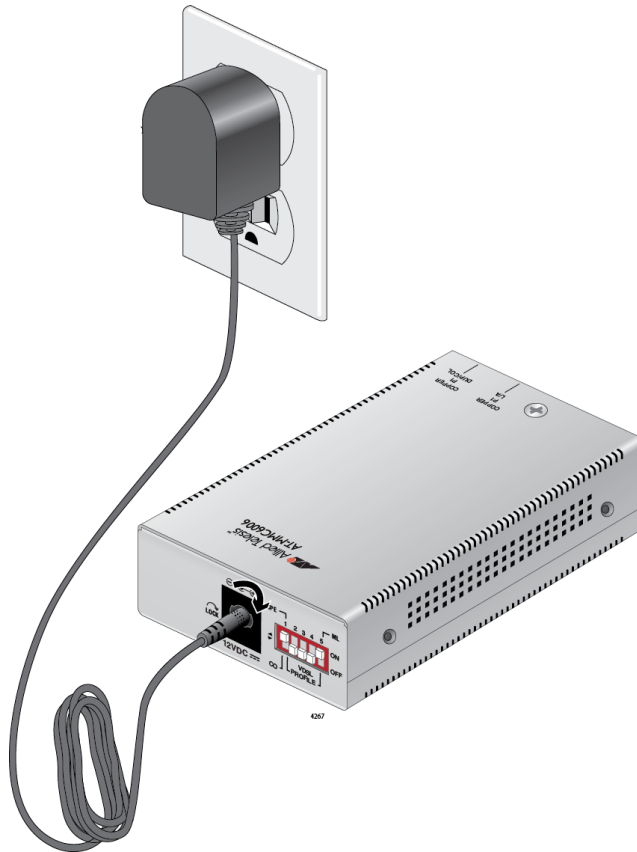

Figure 14. Subscriber Unit - Connecting 12VDC Power Adapter
1. Plug the DC connector of the external power adapter to the power receptacle connector labeled 12VDC on the back panel of the unit and turn the cord clockwise one-quarter turn to lock, as shown in Figure 14 on page 42.
1. Plug the DC of the external power adapter to the power receptacle connector labeled 12VDC on the back panel of the unit and turn the cord clockwise one-quarter turn to lock, as shown in Figure 14 on page 42.